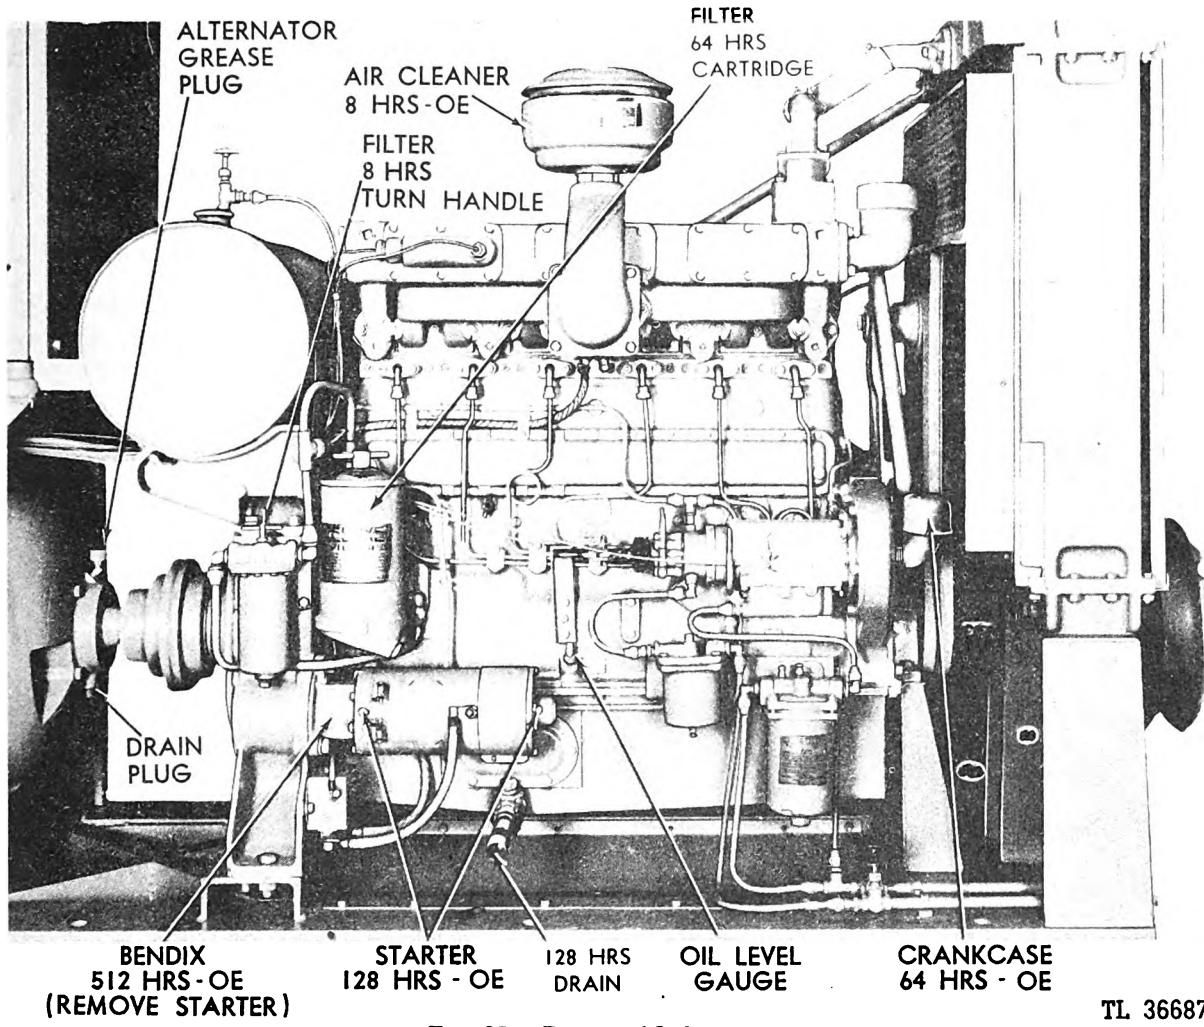
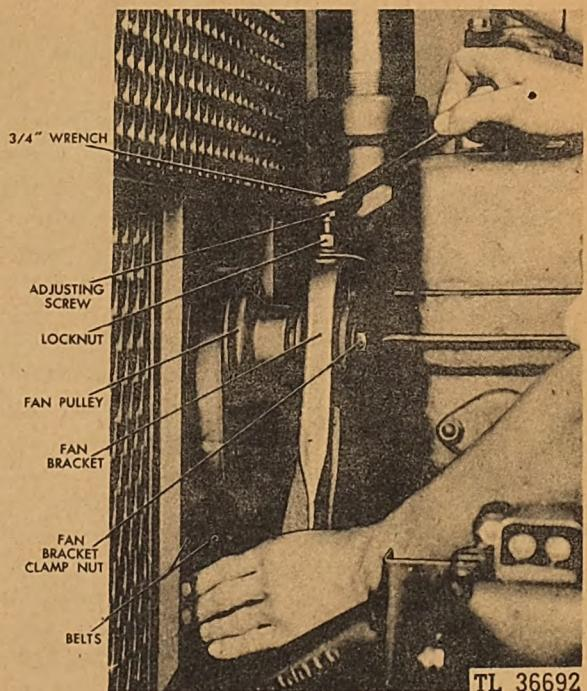

Fig. 35. Points of Lubrication
Fig. 40. Adjusting Fan Belt Tension
(2) Drain sludge from DeLuxe oil filter while hot.
(3) Lubricate battery charging generator. (See Figure 35.)
(4) Lubricate rope starter shaft and stop and throttle control cables with engine oil.
(5) Drain, clean, and refill air cleaner oil cup.
**39. Every 128 Hours of Operation.** (1) Drain crankcase while oil is hot. Refill with 8 gallons of new oil of the recommended viscosity. (See Figure 35.) Run engine a few minutes, then check oil level.
(3) Lubricate starting motor bearings. (See Figure 35.)
(4) Check the specific gravity of each battery cell with a hydrometer. A reading of 1.250 to 1.285 indicates approximately fully charged; 1.230, half charged; and 1.150, dead. Never take a reading shortly after adding water.
(5) Remove the crankcase breather and filler cover and wash the screen in gasoline. Next dip the screen in light engine oil and let it drain before installing it on the engine.
(6) Check the fan belt tension. It should be possible to pull the belts out of line from  $\frac{1}{2}$  to  $\frac{3}{4}$  inch without excessive pulling. If it is necessary to adjust the fan belt tension, loosen the fan adjusting locknut as shown in Figure 40, and adjust the fan adjusting screws so that the fan belt will be at its proper tension.
**40. Every 256 Hours of Operation.** (1) Inspect the commutator and brushes of the battery charging generator by removing the cover band. Check for dirt and wear and also for high mica (the insulation material between the high bars) and for the commutator being